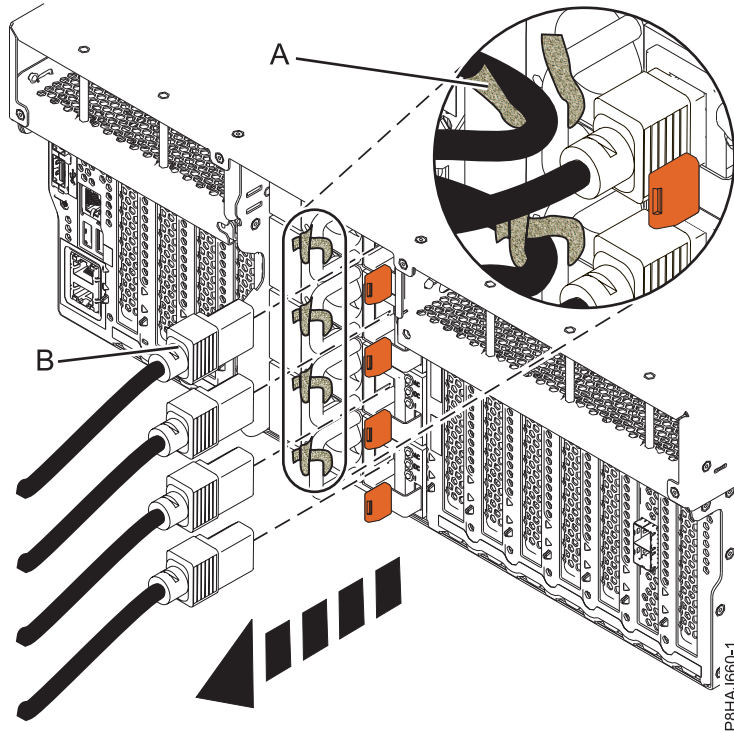
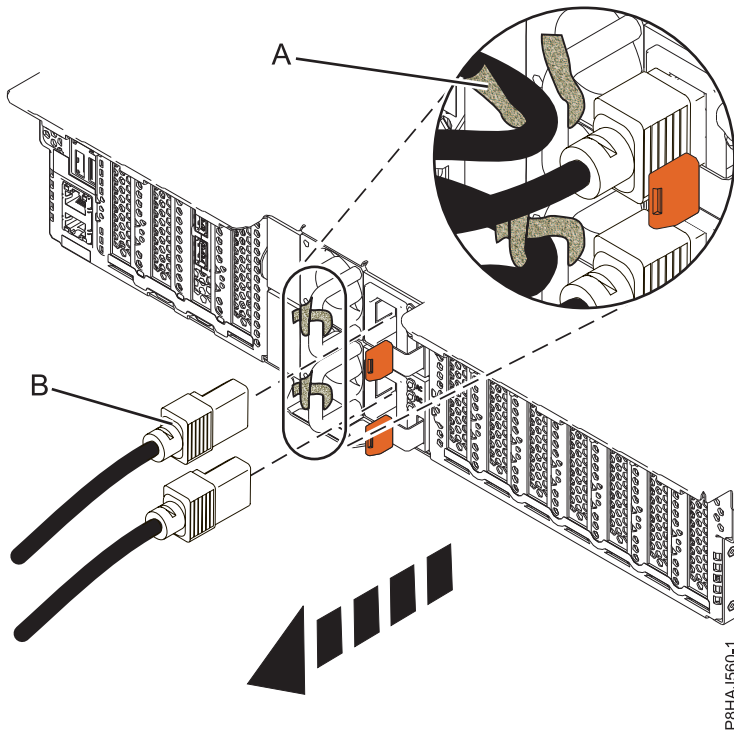
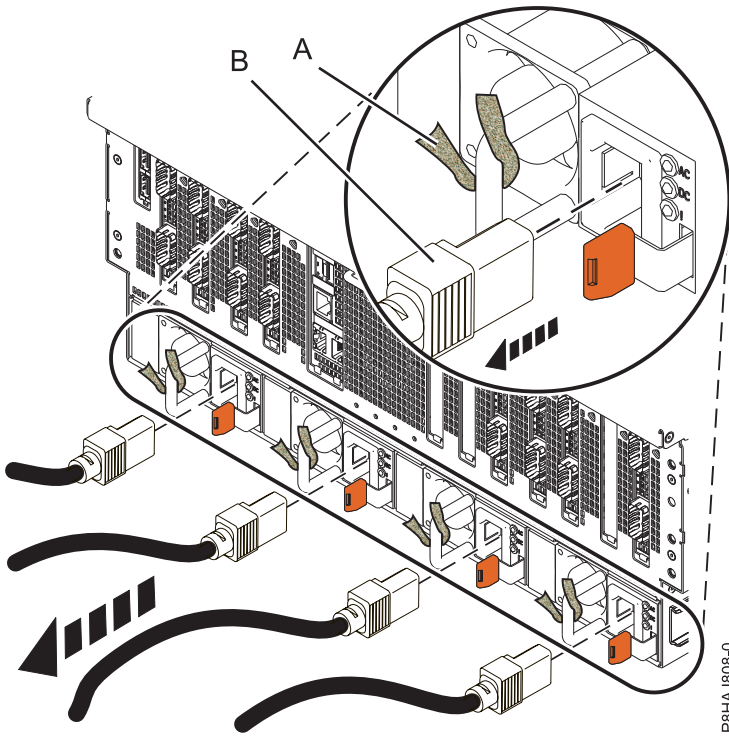

Figure 40. Removing the power cords from an 8247-42L, 8286-41A, or 8286-42A system
Figure 41. Removing the power cords from an 5148-21L, 5148-22L, 8247-21L, 8247-22L, 8284-21A, or 8284-22A system
Figure 42. Removing the power cords from an 8408-44E or 8408-E8E system
3. Disconnect the power cords (**B**) from the system unit. See Figure 40 on page 51, Figure 41 on page 51, or Figure 42 on page 52 or depending on the type of your system.